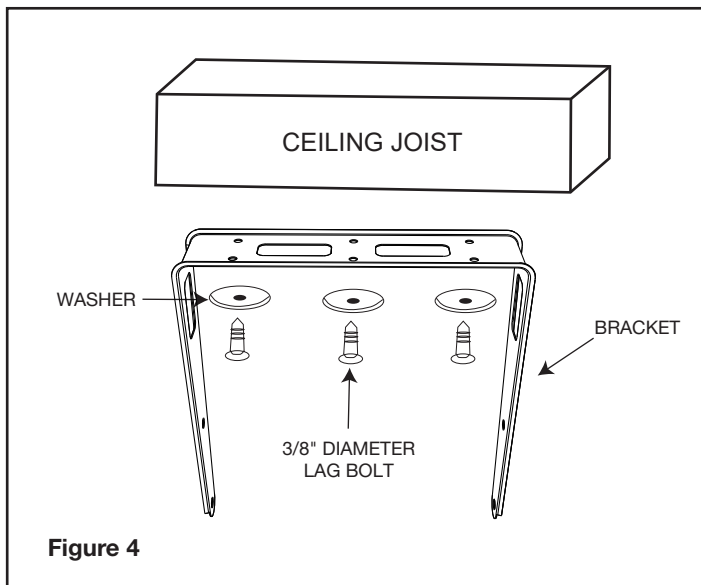

Figure 4
Refer to **Figure 4**.
3. Place the screws and washers as shown in the **Figure 4**.